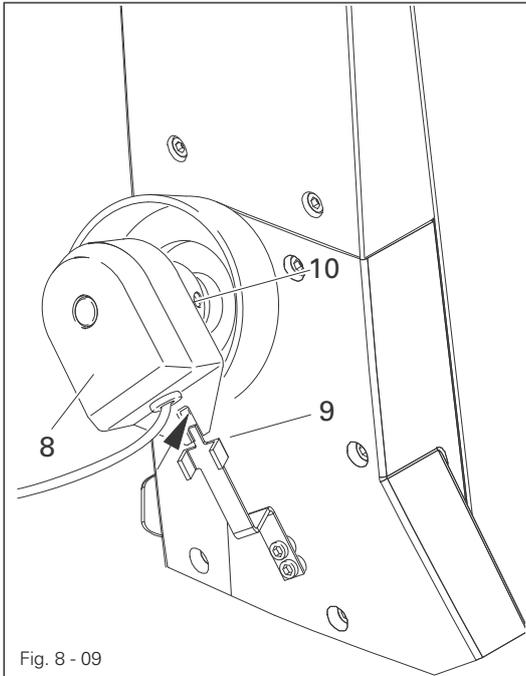

Fig. 8 - 09
- Fit the toothed belt 1 (Fig. 8 - 08).